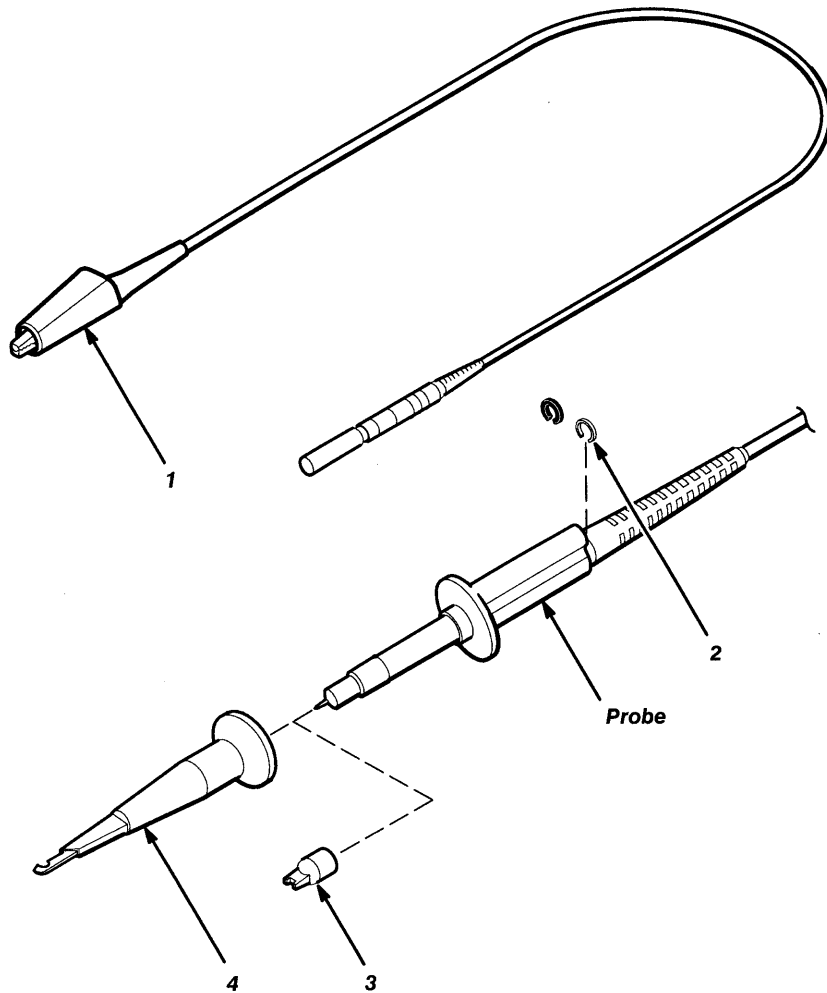

Figure 3-24: Probe and Accessories
The P850 probes come with four accessories (shown in Figure 3-24):
1. You can use the detachable probe common lead shown in Figure 3-24 to connect the oscilloscope input common to the reference point of the circuit being tested. The probe common lead is not chassis ground and you can connect it to an active circuit component. You can therefore make a floating measurement across a component, with neither point connected to ground potential.
2. You can snap the colored cable marker rings shown in Figure 3-24 into the grooves on the probe cable to distinguish between the probes connected to channel 1 and channel 2.
3. When testing integrated circuit devices, remove the hook tip and use the IC lead protection shroud on the probe tip. The shroud shown in Figure 3-24 exposes the sharp probe tip, but it prevents the probe from creating a short circuit across adjacent IC leads.
4. The hook tip shown in Figure 3-24 can connect to accessible test points such as a component lead or test point connector. This accessory frees your hands for other tasks.